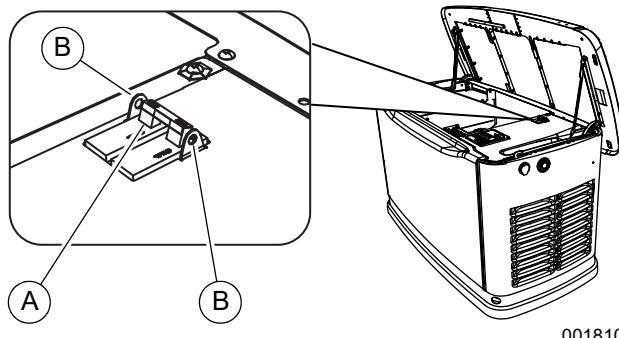

Figure 3-4. Main Line Circuit Breaker (MLCB)
See **Figure 3-4**. This is a 2-pole breaker (A) rated according to relevant specifications.